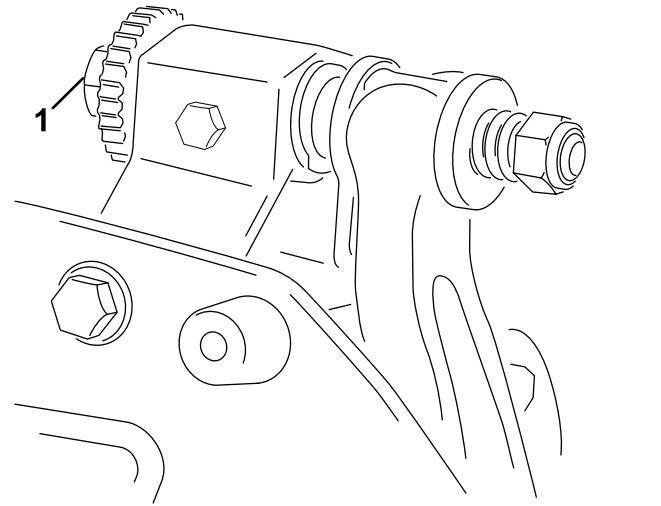

Figure 6
6. Turn the right bedbar adjusting bolt (Figure 6) until you feel light pressure on the shim when sliding it side-to-side. Remove the shim.